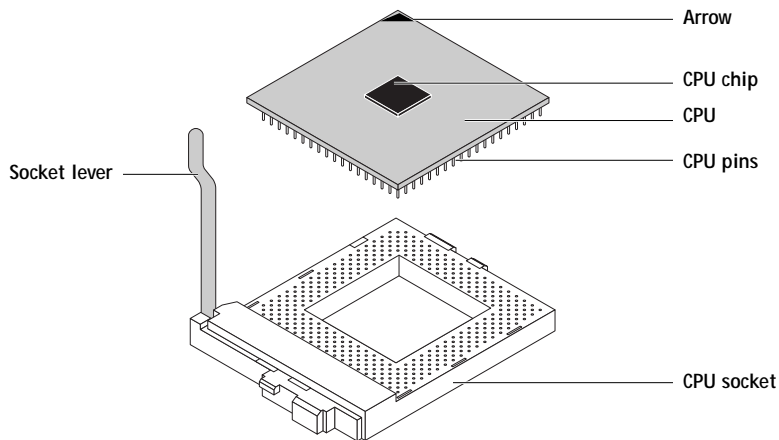

FIGURE 4-21 Replacing a CPU
5. Lift the CPU socket lever to release the CPU from the socket (see Figure 4-21 on page 4-43).
2. Insert the CPU into the socket. Make sure you align the arrow indicating pin 1 on the CPU with pin 1 in the CPU socket (see Figure 4-21).